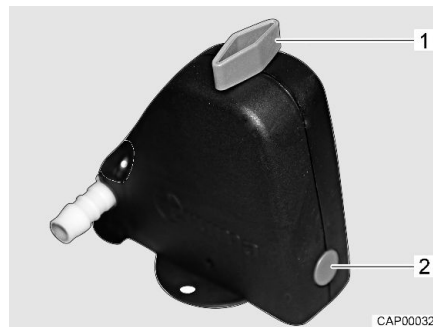
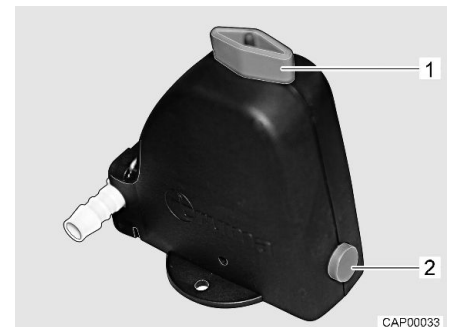

Fig. 101 Safety/drainage valve closed
Fig. 102 Safety/drainage valve open
- Open the safety/drainage valve (Fig. 101). To do this turn the knob (Fig. 101,1) parallel to the safety/drainage valve. The push button (Fig. 101,2) jumps out. The open safety/drainage valve is shown in Fig. 102.